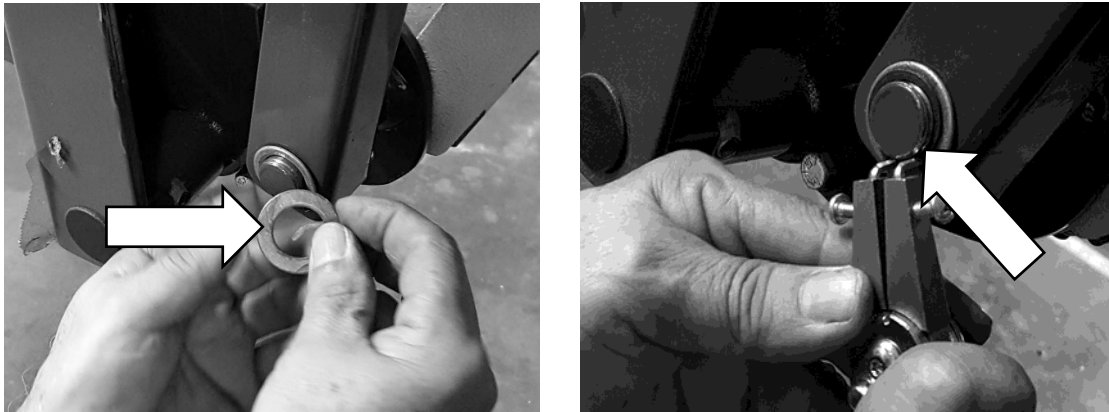

Figure 31. Install Washer and Snap Ring
2. Refer to **Figure 31**. Re-install one (1) 3/4" flat washer over platform pivot and re-install snap ring.